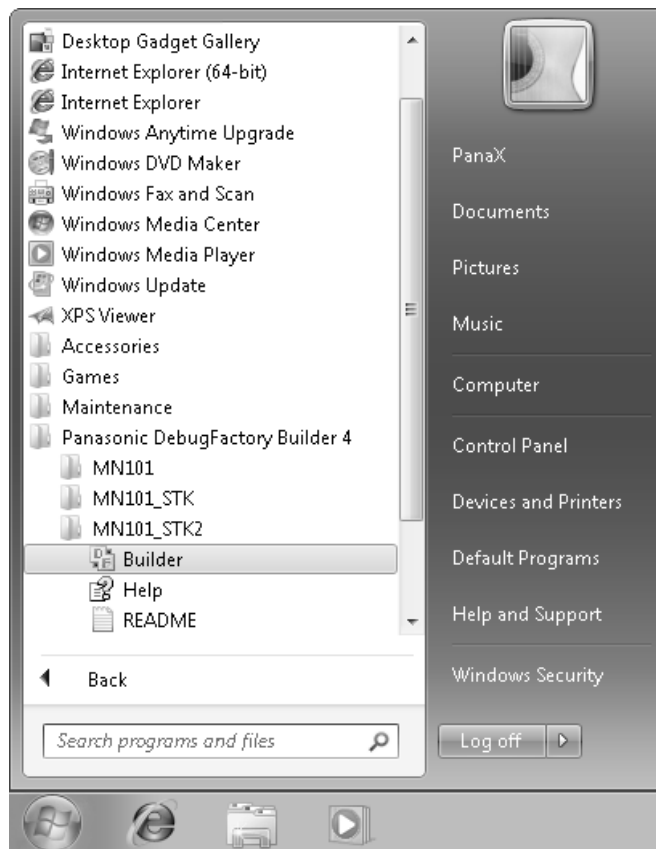
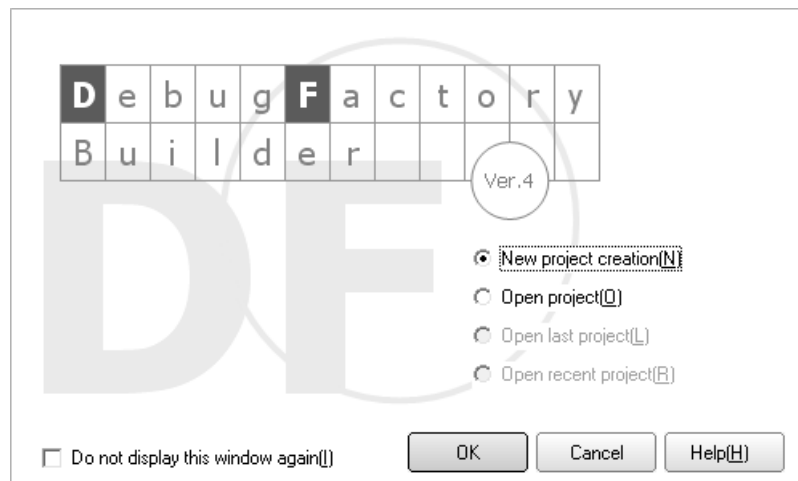
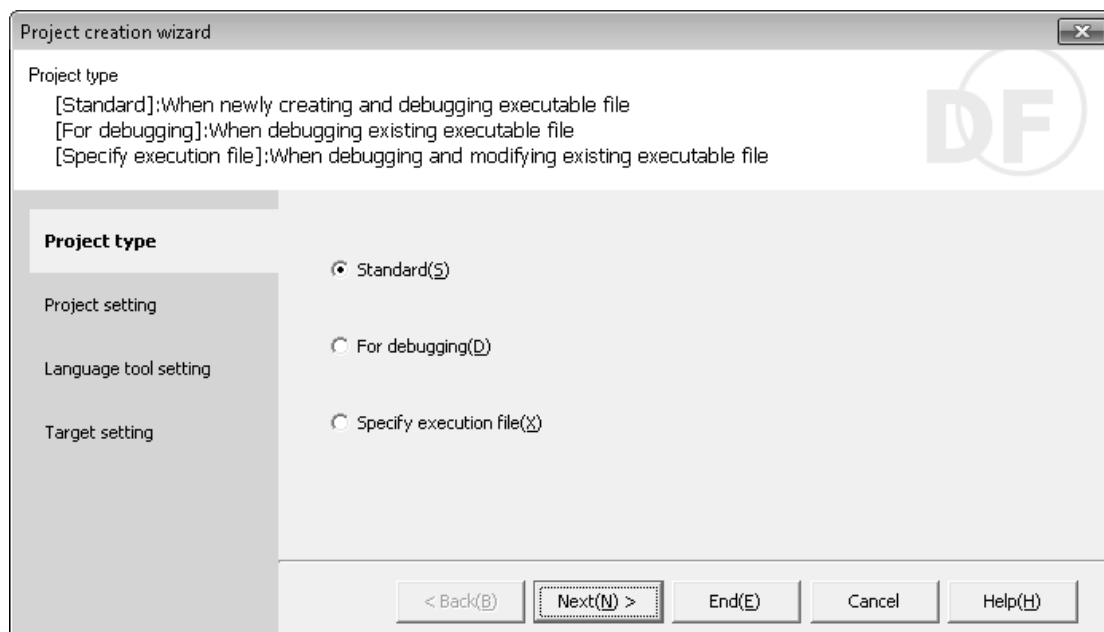

Figure 2.1.9 Registered [Panasonic DebugFactory Builder 4]-[MN101_STK2] Group
Figure 2.5.1 Startup Window
Figure 2.5.2 Project creation wizard
9. After the installation is completed, [Panasonic DebugFactory Builder 4]-[MN101_STK2] group is registered in [All Programs] on the menu [Start]. Figure 2.1.9 shows the shortcut just registered.
From the menu [Start], select [All Program]-[Panasonic DebugFactory Builder 4]-[MN101_STK2], then click [Builder] contained in the [MN101_STK2] group to start up the DebugFactory Builder. (See "Registered [Panasonic DebugFactory Builder 4]-[MN101_STK2] Group" Figure 2.1.9(p.14).) If the software tools have been successfully installed, the startup window in Figure 2.5.1 appears.
Select [New project creation] and click <OK> in [Startup window] shown in Figure 2.5.1, and the dialog shown in Figure 2.5.2 appears. Select [Standard], and click <Next>.